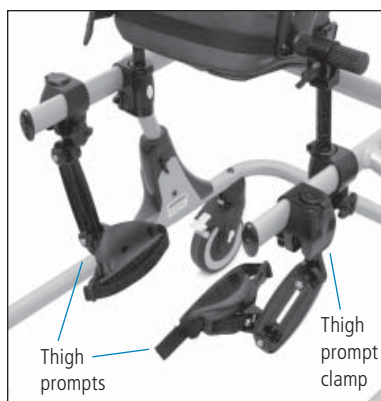

Figure 22
Thigh prompts work best if attached behind the chest prompt on top bar as shown in Figure 22. Thigh prompt clamps differ slightly from the clamps of other accessories, but they attach to the top bar in the same manner.
- Adjust the height, angle, and strap length to guide the stride of the user (see Figure 22 and 23).